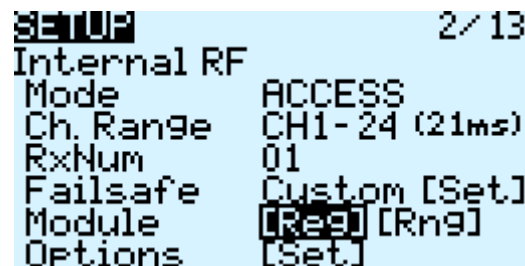

Figure 38: Internal RF
5. Using the ENT knob, scroll down to INTERNAL RF. (Figure 38)